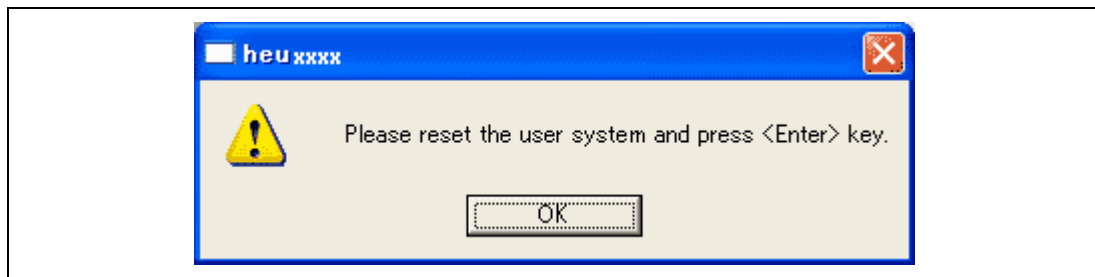

Figure 3.27 Dialog Box of the Power-on Request Message
8. The dialog box is displayed as shown in figure 3.27.